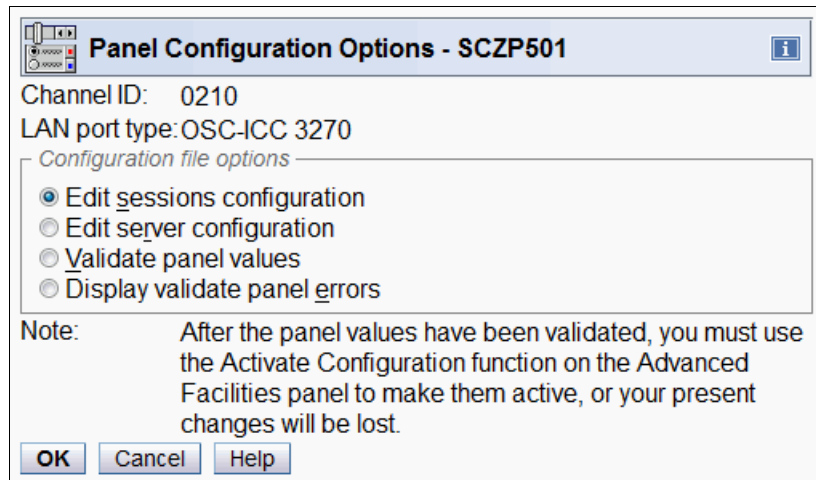

Figure 14-90 OSA Advanced Facilities: Panel Configuration Options
The Panel Configuration Options window opens (Figure 14-90). This is where you can define session configuration and server configuration. Then, you must validate those values.
- The command is completed (ACT20402) window opens. Click **OK** to return to the Panel Configuration Options window (Figure 14-90 on page 698). Next, you define the session configuration.